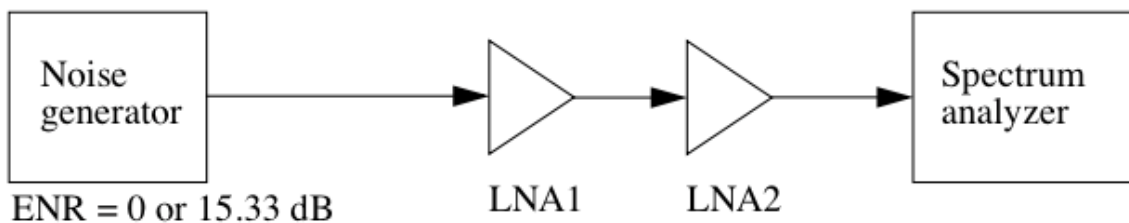

Fig. 11
b) Connect the LNAs, Signal analyzer and noise generator as in Fig. 11. The noise generator will generate a noise corresponding to a $50\ \Omega$ resistor with no supply voltage and the noise of a $50\ \Omega$ resistor amplified with 15.33 dB when the supply voltage is on (excess noise ratio (ENR) = 15.33 dB). Set the Spectrum analyzer to RF ATTEN AUTO, LOW NOISE and RES BW AUTO.